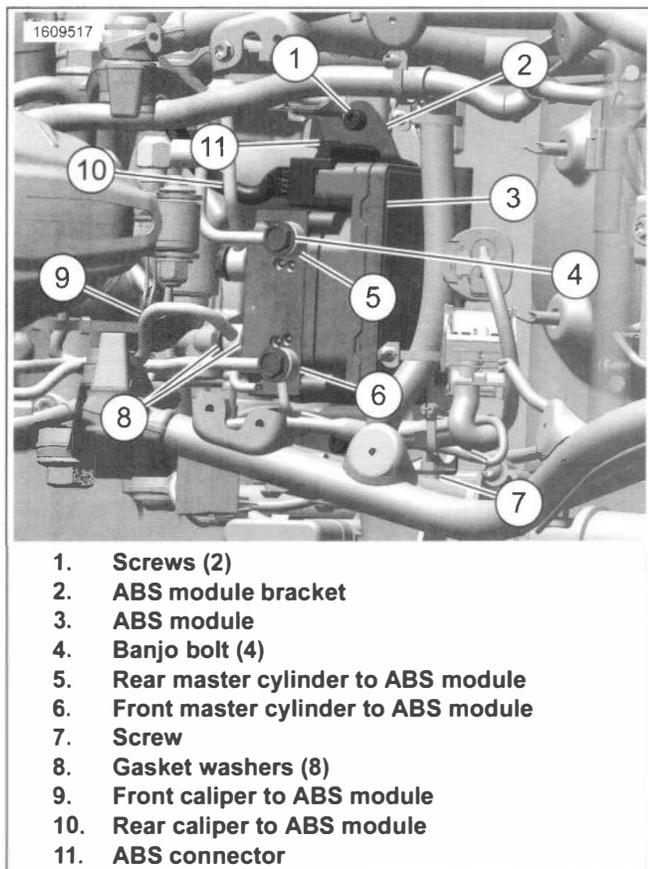
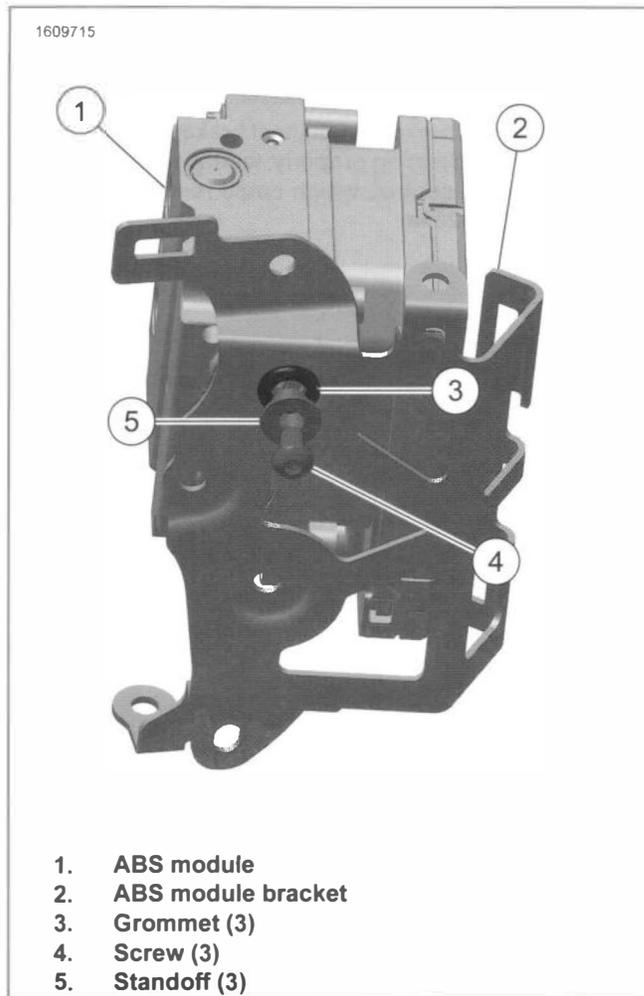

Figure 3-46. ABS Module Brake Line Connections
Figure 3-47. ABS Module Mounting
1. See Figure 3-46. Remove screw (7).
- a. Remove banjo bolts (4).
- b. Discard gasket washers (8).
- d. Disconnect ABS connector (11).
- a. Remove screws (1).
4. See Figure 3-47. Remove ABS module from bracket.
- a. Remove screws (4).
- b. Remove ABS module (1) from mounting bracket (2).
- c. If required, remove the stand offs (5) and grommets (3).
1. See Figure 3-47. Assemble ABS module to bracket.
- a. If required, install grommets (3) and standoffs (5).
- b. Install ABS module (3) to bracket (1) with screws (2).
2. See Figure 3-46. Install ABS module and bracket assembly.
- a. Install ABS module bracket (2).
- b. Install screws (1). Tighten.
3. See Figure 3-46. Install brake lines.
- b. Install each brake line with a banjo bolt (4) and new gasket washers (8).
4. Connect ABS connector (11).
5. See Figure 3-47. Install ABS module frame cover.
- a. Place frame cover (2) in position.